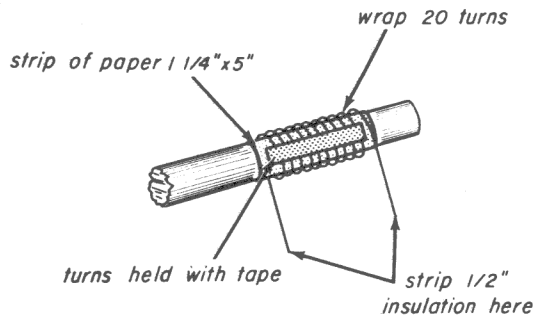

Fig. 27-6
Step 4. Prepare a small pickup coil for coupling signals into the antenna coil. To do this, cut a strip of paper about $1\frac{1}{4} \times 5$ inches, and wrap it over the coil on the antenna coil form as shown in Fig. 27-6. Wrap it so that it fits snugly, but not tightly. It should slide off easily. Fasten it with a piece of tape. Then, using magnet wire, start with a 6-inch lead and wrap twenty turns close wound (touching each other) around the paper and leave another 6-inch lead at this end. Don't let go of the wire at any time or it will spring loose. While still holding the wire tight, fasten the coil in place with more tape, as shown in the figure. Strip $\frac{1}{2}$ -inch of insulation from the leads. Do not twist the leads together, or they may short through the insulation.